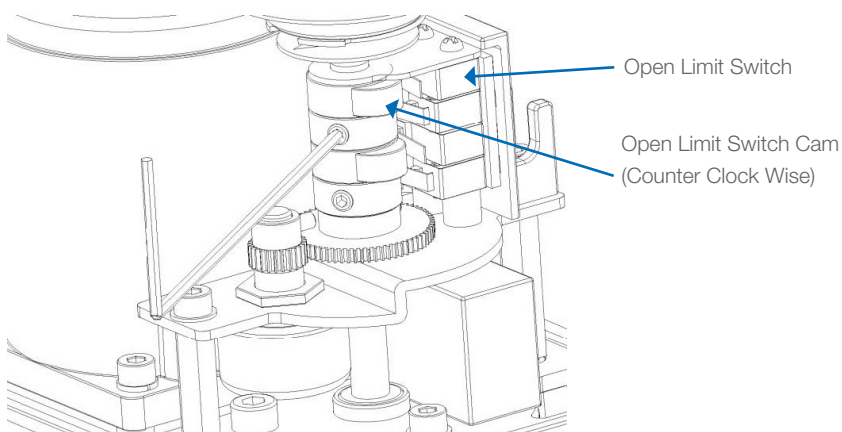

FIGURE 2: OPEN CAM SETTING
- ☐ Rotate the OPEN cam towards limit switch lever until the switch 'clicks' (see Figure 2 below)